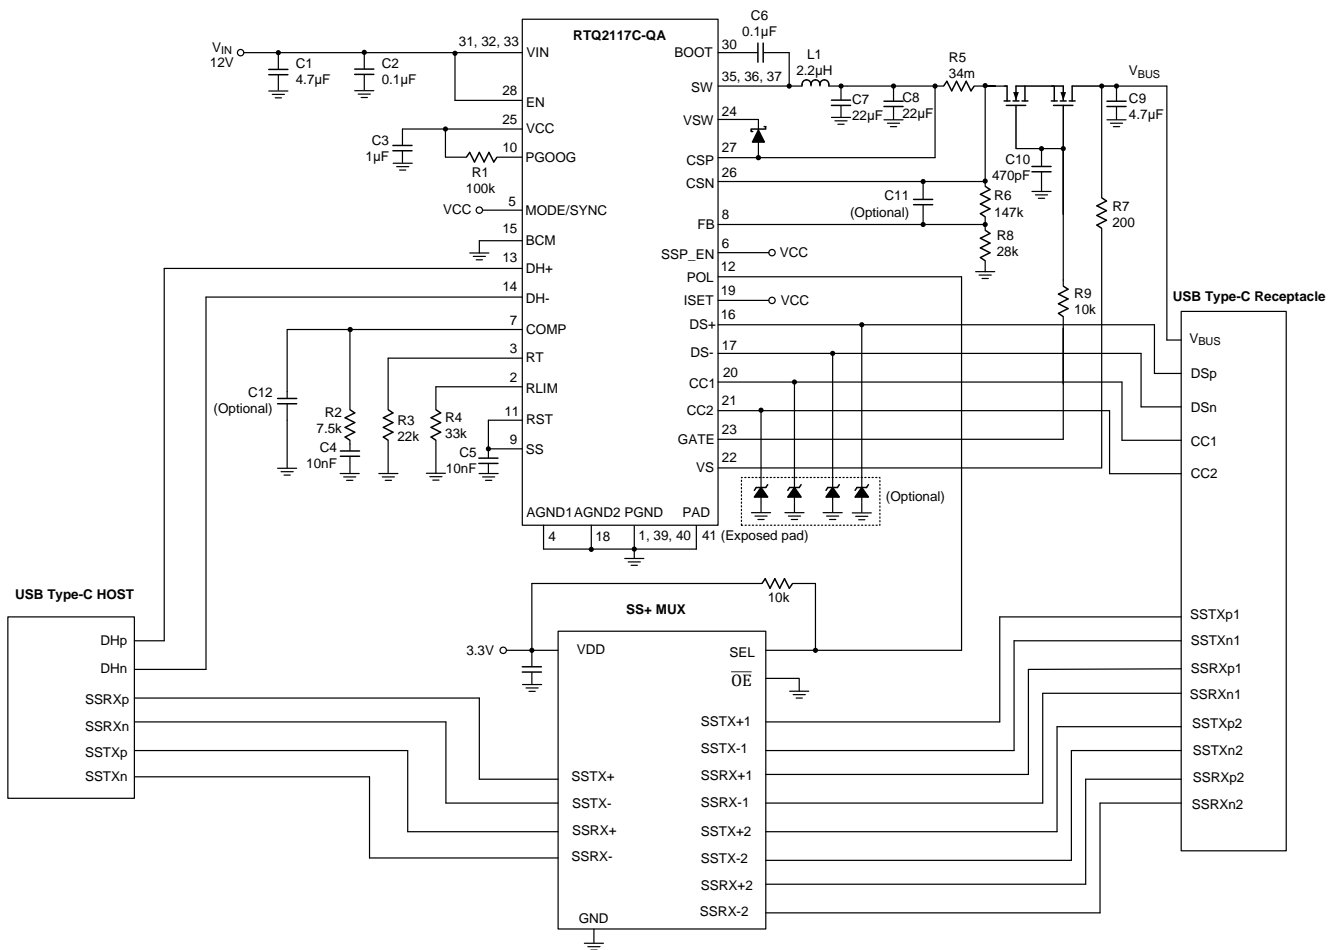

Figure 25. Polarity Application for SS+ MUX
- ▶ Power on VBUS. Reversible Type-C plug orientation is detected by the POL pin when a UFP is connected. By using POL the RTQ2117C implements the SS+ function with SS+ MUX as shown in Figure 25.